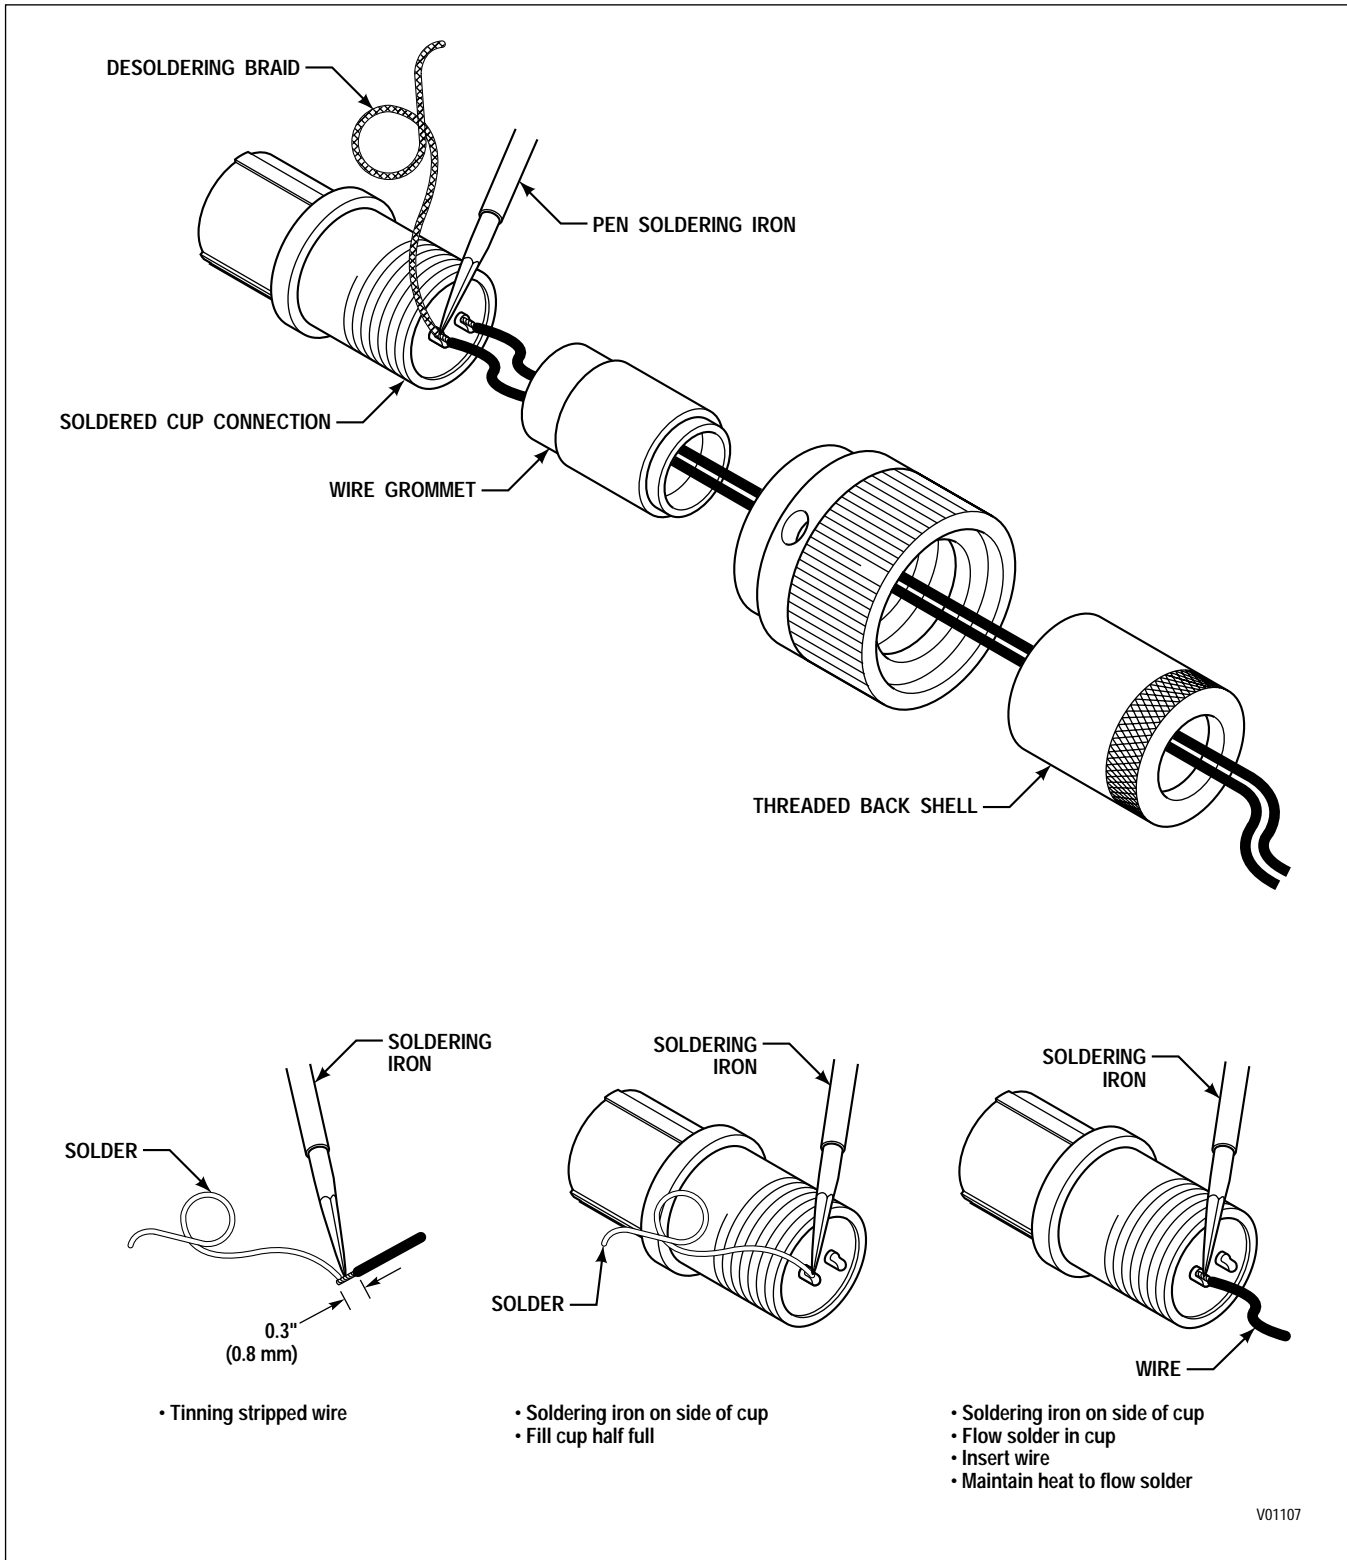

Figure E-11. ITT Cannon Connectors — Soldered (2-Way HD Retarder)
A. Connector Terminal Repair (refer to Figure E-11)
APPENDIX E — CONNECTOR PART NUMBERS, TERMINAL PART NUMBERS, TOOL PART NUMBERS, AND REPAIR INSTRUCTIONS**C. Terminal Crimping (refer to Figure E-11, View C) (cont'd)**
2. Push the terminal and wire into the connector until it locks into position (refer to Figure E-11, View A). Check to see that the terminal is at the same height as other terminals. Tug on the wire at the rear of the connector to ensure that the terminal is locked in place.